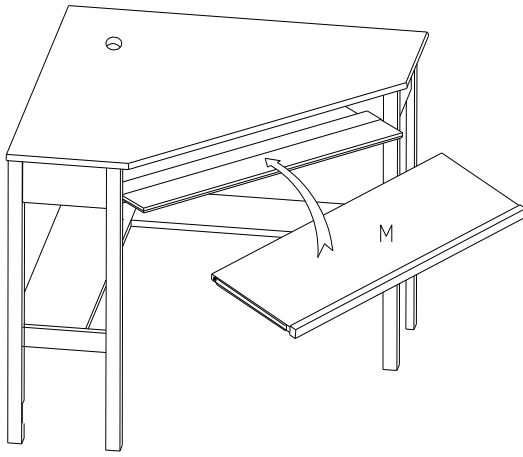

FIGURE 12
11. UPRIGHT THE UNIT, SLIDE KEYBOARD SHELF (M) INTO THE GLIDERS OF UNIT. AND INSERT PLASTIC COVER (11) INTO THE BIG HOLE ON TOP PANEL (A). AS SHOWN IN FIGURE 12 & 13.